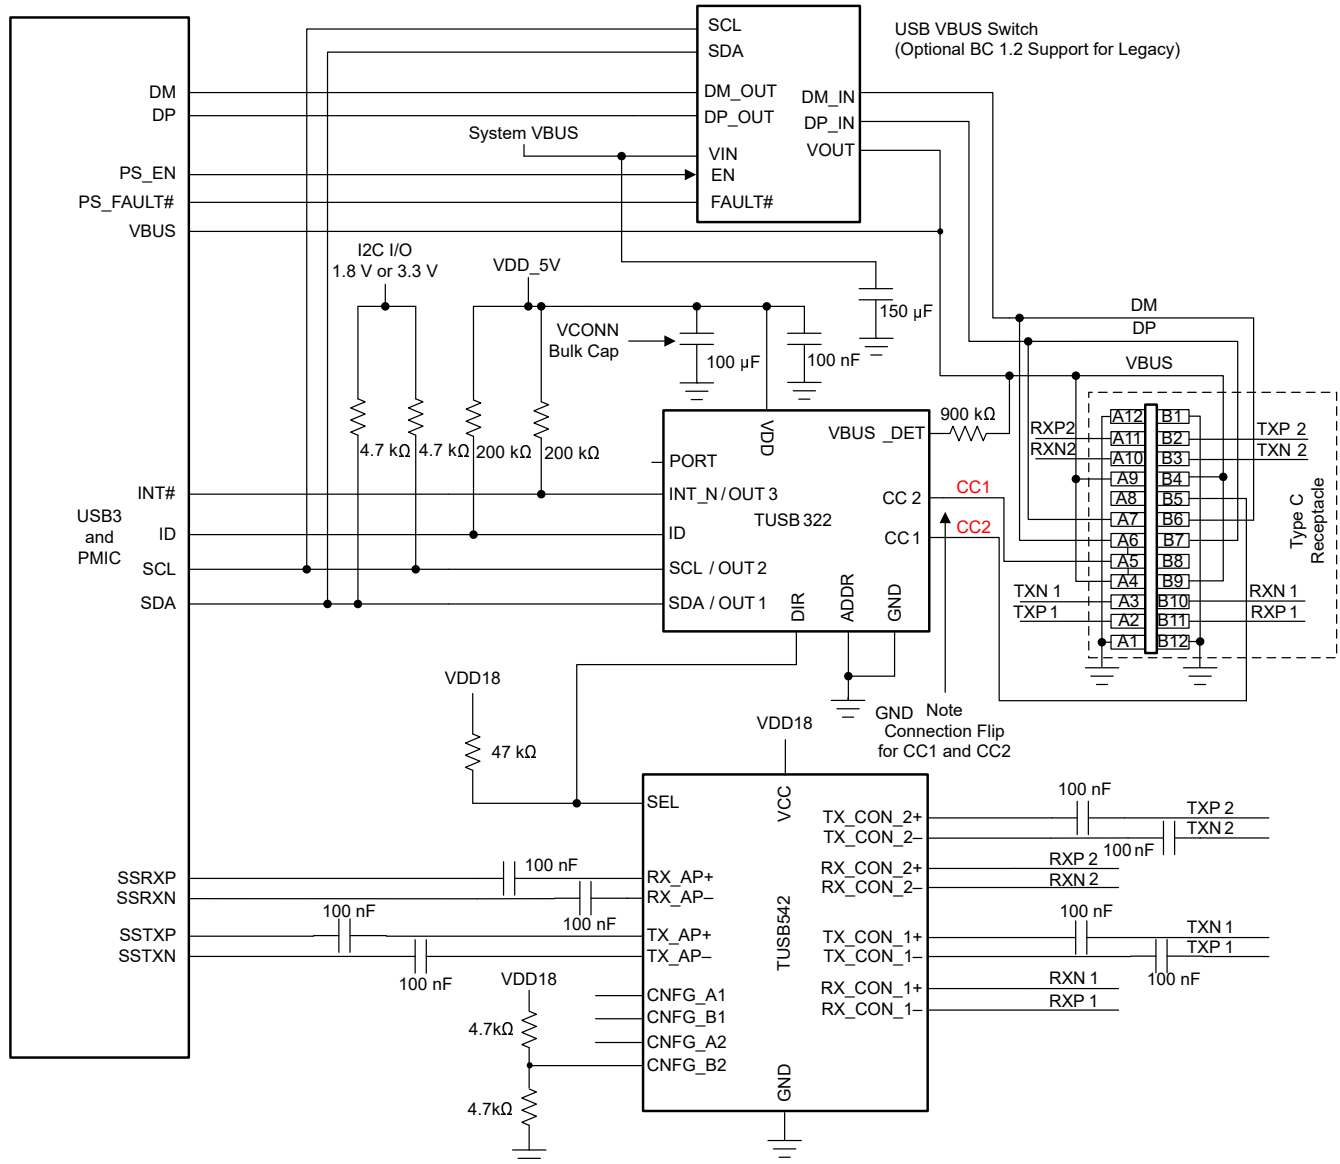

Figure 7-2. USB-C DRP Implementation Using TUSB542 and TUSB322/TUSB321
Figure 7-2 shows an example implementation of an USB Type-C DRP port using TUSB542. Texas Instruments TUSB322 is shown here as channel configuration (CC) controller. Note: connections for CNFG pins of TUSB542 is an example only. The connection of the CNFG pins is application dependent; refer to Table 6-2, where the user can find the available settings.
Figure 7-2 shows an example implementation of an USB Type-C DRP port using TUSB542. Texas Instruments TUSB322 is shown here as channel configuration (CC) controller. Note: connections for CNFG pins of TUSB542 is an example only. The connection of the CNFG pins is application dependent; refer to the Table 6-2, where the user can find the available settings.